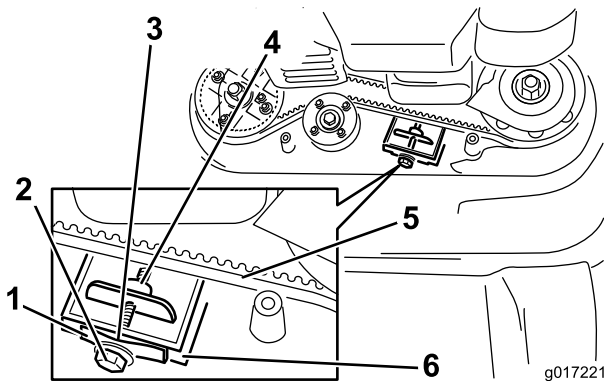

Figure 37
**Note:** If there is a visible gap between the gauge and the spring, tighten the adjusting bolt and the nut until the paper barely slides freely in and out of the gap (Figure 37).